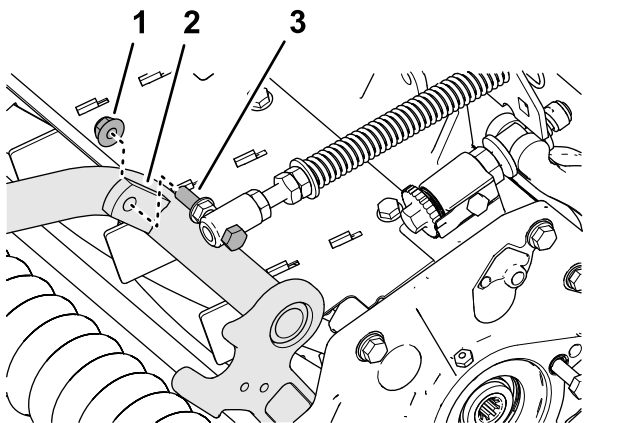

Figure 10
4. Assemble the capscREW of the turf compensation spring to the right tab of the carrier frame (Figure 10) with the flange locknut (3/8 inch).